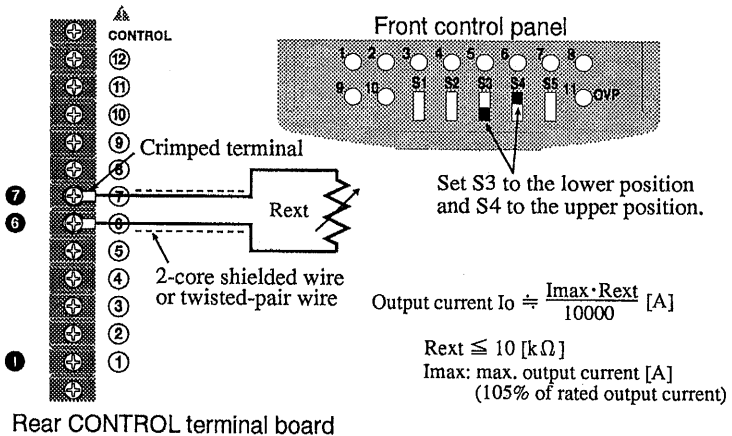

Fig. 3-5 Connection and setup for output current control using external resistor
- ① Turn off the OUTPUT switch.
- ② Turn off the POWER switch.
- ③ Set the control switches S3 and S4 to the position as shown in Fig. 3-5.
- ④ Connect an external resistor across the control terminals ⑥ and ⑦ as shown in Fig. 3-5.